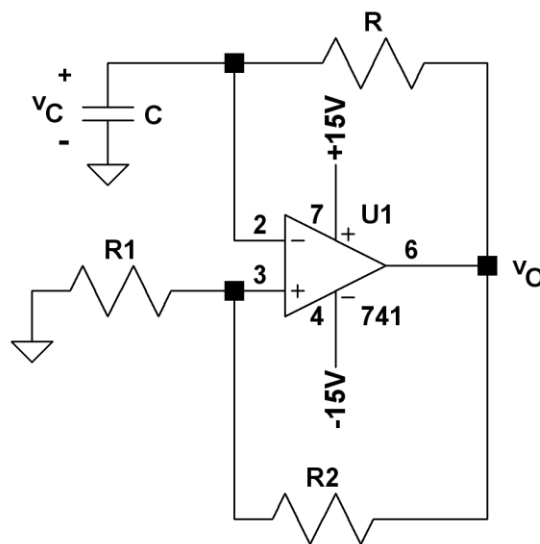

Figure 3. Astable Oscillator Circuit. See Figure 18.26 of [1] and related text for a discussion.
8. Design the circuit of Figure 3 to produce a square wave output with a period of one millisecond. The sawtooth voltage at the capacitor should be 15 volts peak-to-peak. To avoid a significant current drain from the op-amp, choose R_2 and R at least 2K each.
6. ASTABLE OSCILLATOR CIRCUIT. Assemble the circuit of Figure 3. Display the voltages v_o and v_c on the oscilloscope. Verify that v_o is a one millisecond square wave. Get a hard copy. Discuss any discrepancies with the instructor.